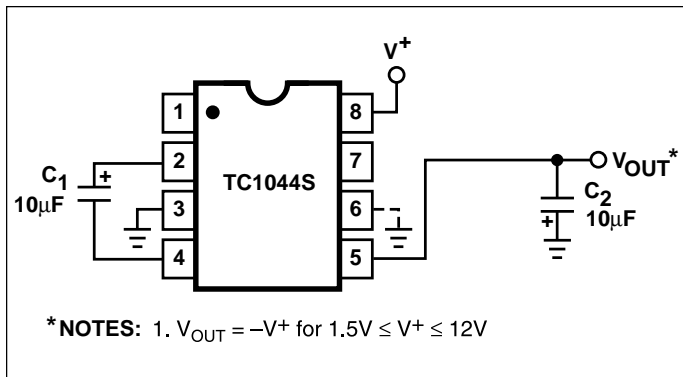
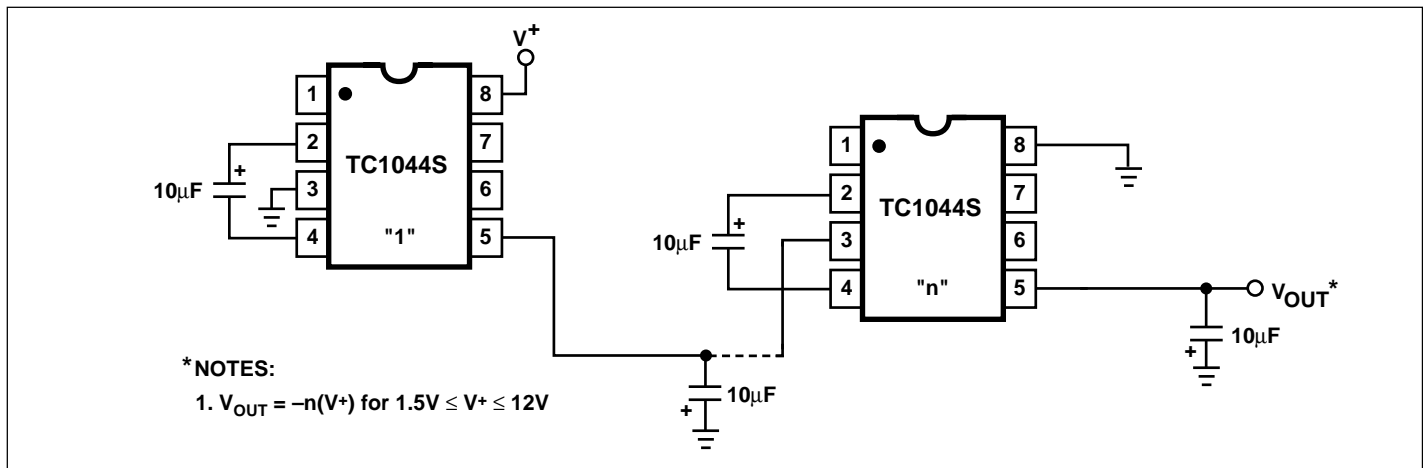
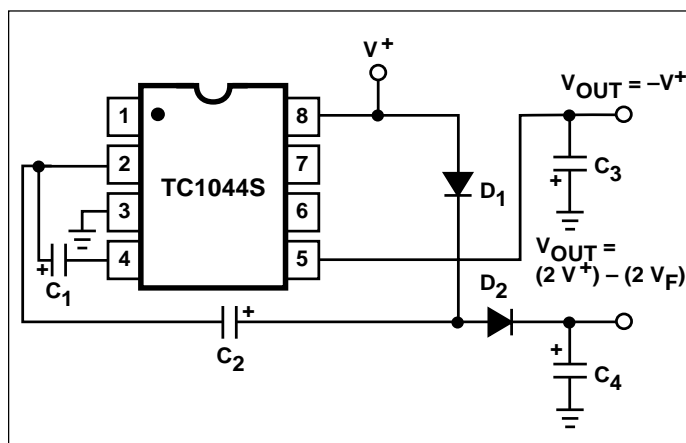
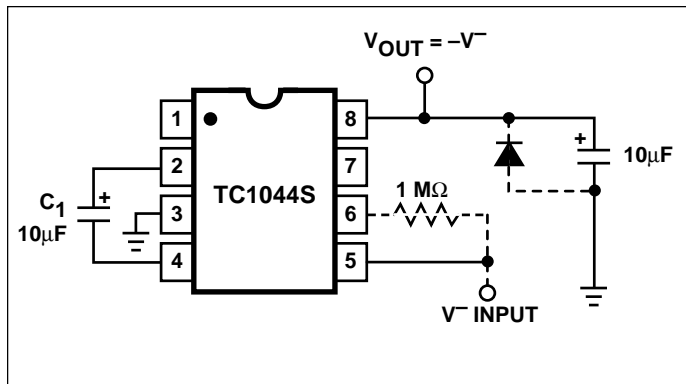

Figure 3. Simple Negative Converter
Figure 5. Increased Output Voltage by Cascading Devices
Figure 9. Combined Negative Converter and Positive Multiplier
Figure 10. Positive Voltage Conversion
Figure 3 shows typical connections to provide a negative supply where a positive supply is available. A similar scheme may be employed for supply voltages anywhere in the operating range of +1.5V to +12V, keeping in mind that pin 6 (LV) is tied to the supply negative (GND) only for supply voltages below 3.5V.
The output characteristics of the circuit in Figure 3 are those of a nearly ideal voltage source in series with 70Ω . Thus, for a load current of $-10mA$ and a supply voltage of +5V, the output voltage would be $-4.3V$.
The TC1044S may be cascaded as shown (Figure 5) to produce larger negative multiplication of the initial supply voltage. However, due to the finite efficiency of each device, the practical limit is 10 devices for light loads. The output voltage is defined by:
Figure 9 combines the functions shown in Figures 3 and 8 to provide negative voltage conversion and positive voltage multiplication simultaneously. This approach would be, for example, suitable for generating +9V and -5V from an existing +5V supply. In this instance, capacitors C_1 and C_3 perform the pump and reservoir functions, respectively, for the generation of the negative voltage, while capacitors C_2 and C_4 are pump and reservoir, respectively, for the multiplied positive voltage. There is a penalty in this configuration which combines both functions, however, in that the source impedances of the generated supplies will be somewhat higher due to the finite impedance of the common charge pump driver at pin 2 of the device.
Since the switches that allow the charge pumping operation are bidirectional, the charge transfer can be performed backwards as easily as forwards. Figure 10 shows a TC1044S transforming -5V to +5V (or +5V to +10V, etc.). The only problem here is that the internal clock and switch-drive section will not operate until some positive voltage has been generated. An initial inefficient pump, as shown in Figure 9, could be used to start this circuit up, after which it
will bypass the other (D_1 and D_2 in Figure 9 would never turn on), or else the diode and resistor shown dotted in Figure 10 can be used to "force" the internal regulator on.
The same bidirectional characteristics used in Figure 10 can also be used to split a higher supply in half, as shown in Figure 11. The combined load will be evenly shared between the two sides. Once again, a high value resistor to the LV pin ensures start-up. Because the switches share the load in parallel, the output impedance is much lower than in the standard circuits, and higher currents can be drawn from the device. By using this circuit, and then the circuit of Figure 5, +15V can be converted (via +7.5V and -7.5V) to a nominal -15V, though with rather high series resistance (~250Ω).